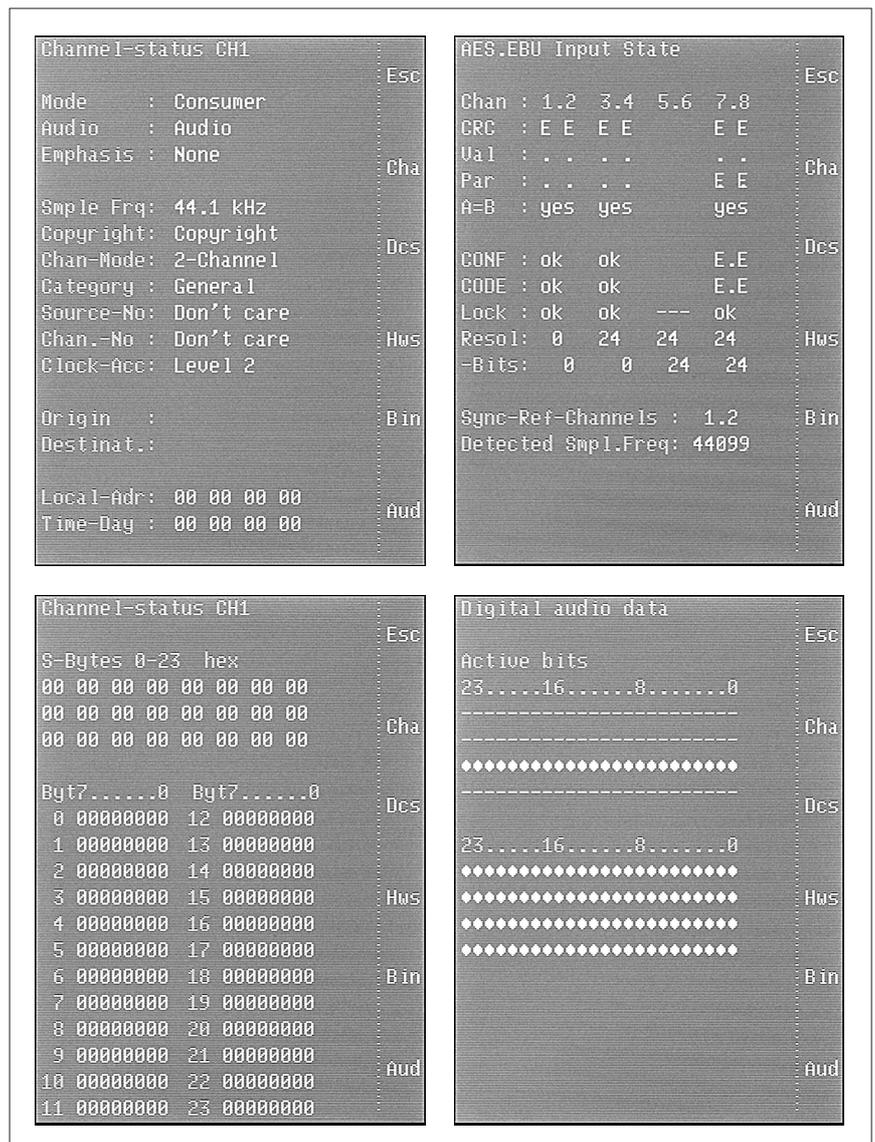

Fig. E 4-14: The different modes of the AES/EBU Status display
- **Dcs** (see Fig. E 4-14, above left)
- **Hws** (see Fig. E 4-14, above right)
- **Bin** (see Fig. E 4-14, below left)
- **Aud** (see Fig. E 4-14, below right)
see Fig. E 4-14